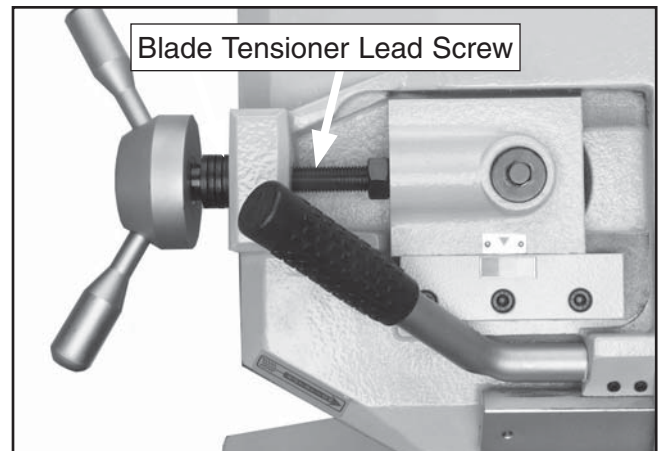

Figure 31. Lubrication points.
1. Before applying lubricant to any area, wipe the area clean to avoid contamination. Lubricate the blade tensioner leadscrew (**Figure 31**) with general purpose grease, and apply a coat of general purpose oil to all unprotected cast iron surfaces.